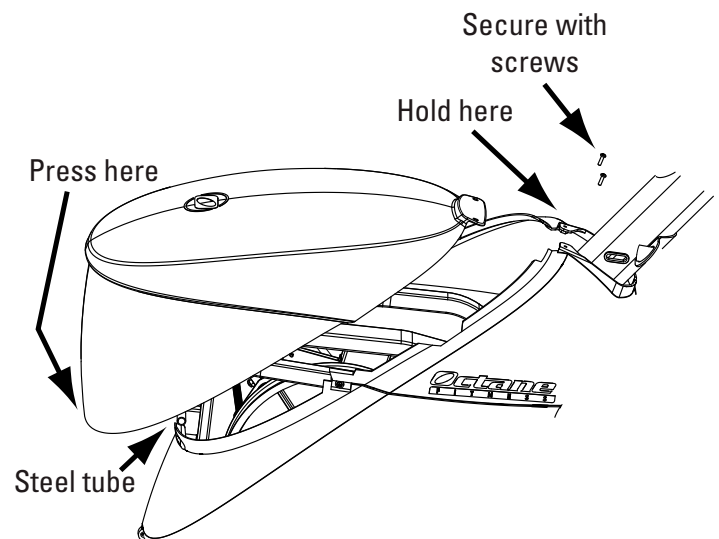

Figure 1.4
4. While still holding the back edge in place, press firmly on the bottom edge of the front of the cover until it snaps into place (Figure 1.4). **You will feel and hear it snap into place as the plastic bracket on the inside of the front bottom edge clips onto the steel tube at the front of the main frame.**